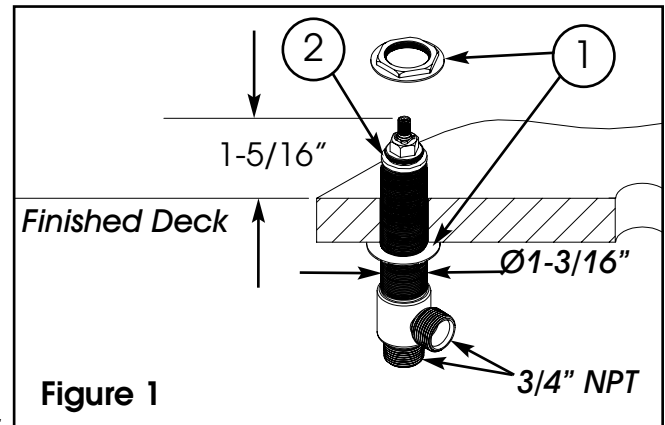

Figure 1
- Place flange NUT (1) on valve BODY (2).
- Insert BODY (2), (blue cold & red hot), through hole from below mounting surface.
- Adjust and secure with additional flange NUT (1) so that the top of valve stem is 1-5/16" above the mounting surface. See Figure 1.